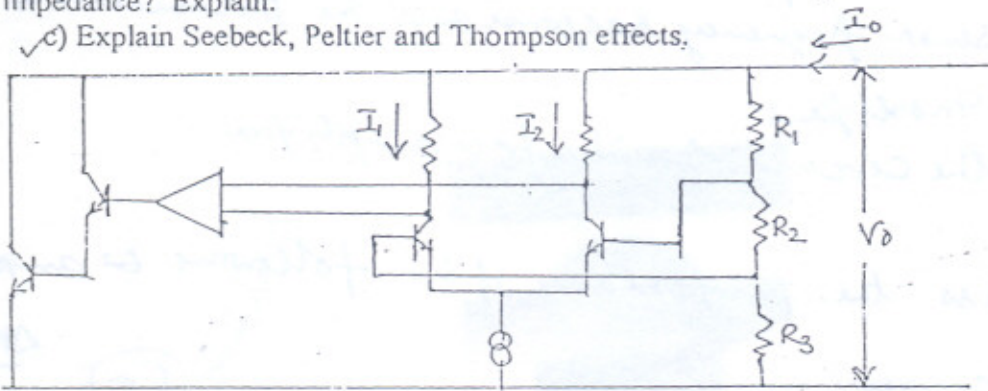

Fig 4
b) The circuit of fig.4 shows a VPTAT with a sensitivity of $10 \text{ mV}/^\circ\text{C}$.